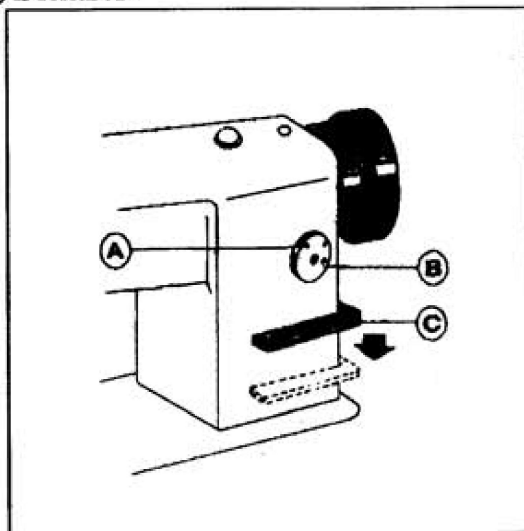

Fig. 8
10. SET STITCH LENGTH AND REVERSE FEEDING (Fig.8)